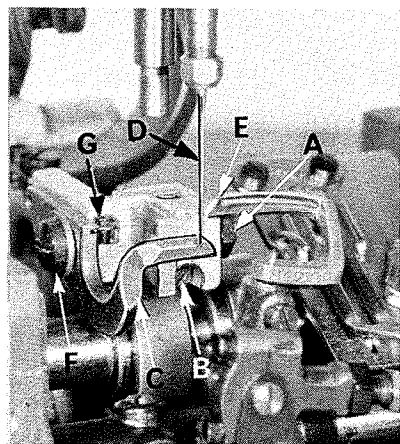

Fig. 10
If feed dog teeth are not parallel with the throat plate, loosen nut (A, Fig. 10) and turn screw (B) clockwise to lower the front teeth, or counterclockwise to raise the front teeth. Retighten nut when feed dog is set properly.
Set rear needle guard (C, Fig. 10) horizontally so that it does not quite contact the rear of needle (D) when at its most forward point of travel. A clearance of .005 inch (.127mm) is permissible. It should be set as low as possible, yet have its vertical face approach within about 3/64 inch (1.19mm) of the needle, until the point of looper (E), moving to the left, is even with the needle. To move needle guard forward or backward, loosen screw (F), move needle guard as required, and retighten screw. To raise or lower needle guard, loosen screw (F), and turn screw (G) clockwise to lower needle guard or counterclockwise to raise it. Retighten screw (F) after guard is properly set.